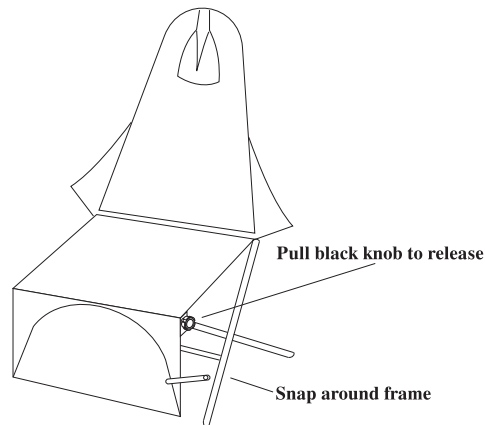

Figure 6 - Positioning footrest to vertical
3. **Footrest-** The footrest may be positioned in the normal horizontal operating position, or allowed to hang down vertically so a patient can be seated in a sitting position. To release footrest into the vertical position, first fold toe section inward, then lift slightly on footrest section. While lifting, pull the black knobs on each side of the chair frame to release and push footrest down into the vertical position. Lock in the vertical position by snapping holding strap around the chair leg frame. To reposition footrest in the horizontal position, unsnap holding strap from frame, lift footrest to the horizontal position until it locks, then unfold toe section out to horizontal. (Fig. 6)